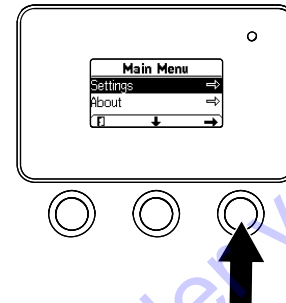

Figure 13
1. From the MAIN MENU, use the center button to scroll down to the SETTINGS MENU and press the right button (Figure 13).